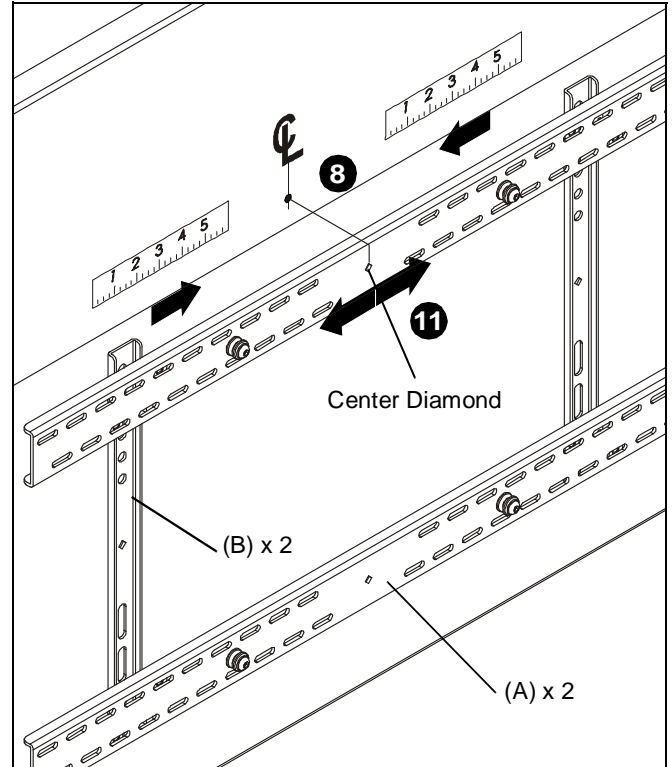
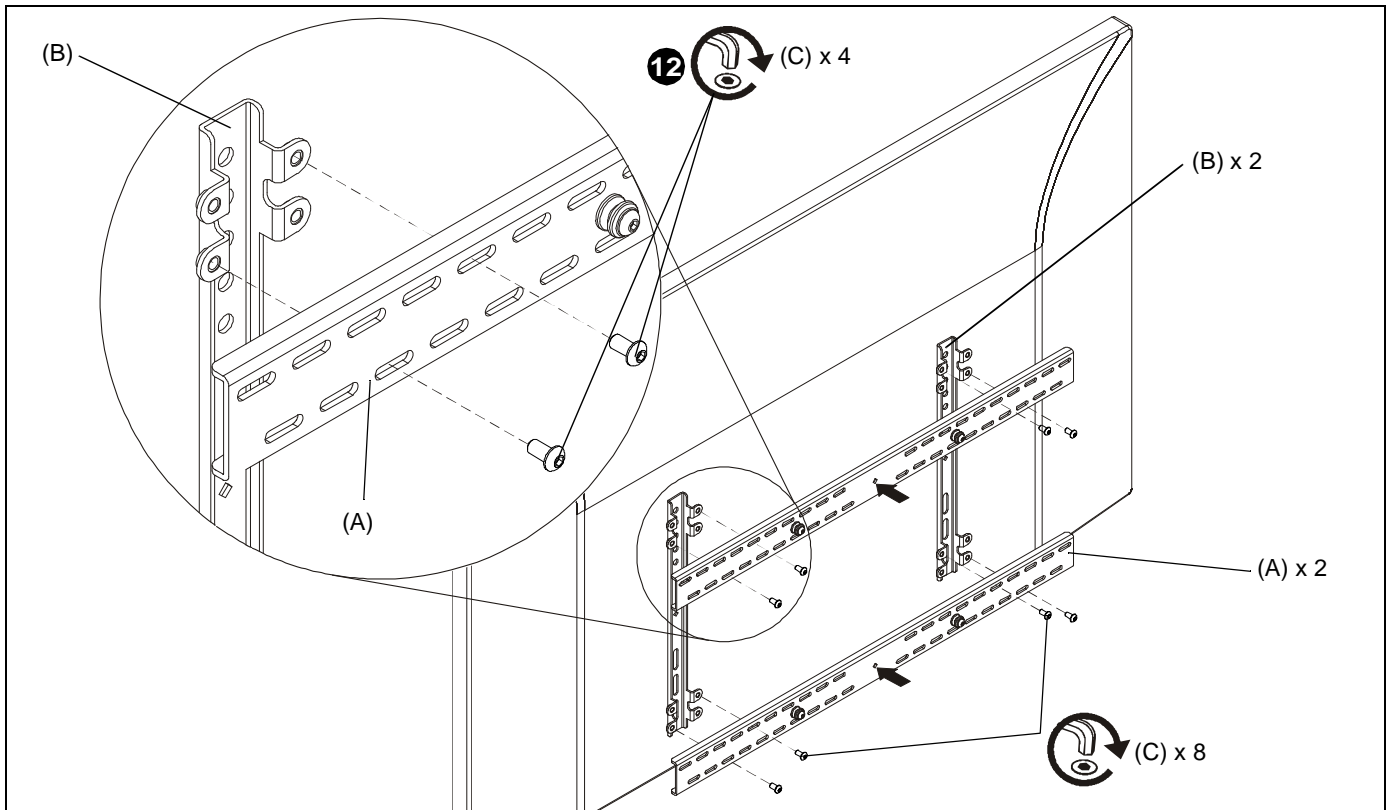

Figure 3
Figure 4
8. Determine and mark the horizontal center position between the left and right *TOP* mounting holes in display. (See Figure 3)
10. Orient upper cross bracket (A) so that flanges are facing towards display and resting over mounting tabs of left and right vertical brackets (B). (See Figure 3)
11. Adjust upper cross bracket (A) position until center diamond in cross bracket (A) aligns with mark made in Step 8, and mounting slots in cross bracket (A) are aligned with threaded holes in mounting tabs of left and right vertical brackets (B). (See Figure 3) and (See Figure 4)
12. Secure upper cross bracket (A) to left and right vertical brackets (B) using four 1/4-20 x 1/2" button head cap screws (C). (See Figure 4)
13. Repeat steps 10 through 12 for lower cross bracket (A).
IMPORTANT ! : The orientation of, and mounting holes used, when installing the lower cross bracket must be the same as the upper cross bracket. Vertically align upper and lower brackets by aligning slots. (See Figure 4)
IMPORTANT ! : Whenever possible install mounting screws in a diagonal pattern on the vertical bracket mounting tabs. (See Figure 4)